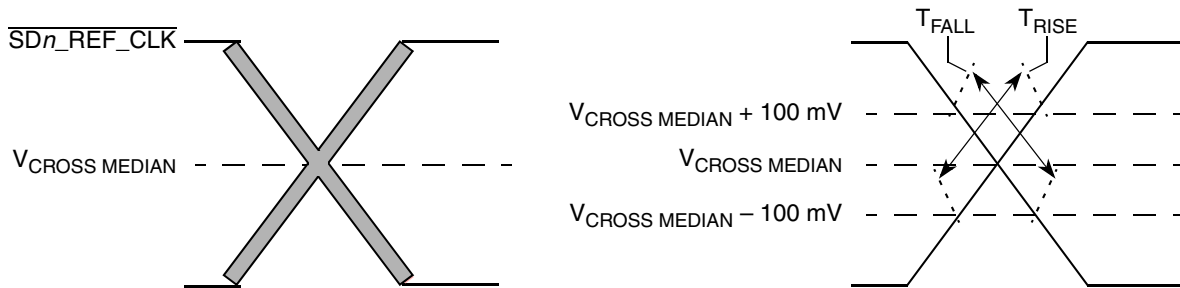

Figure 38. Single-Ended Measurement Points for Rise and Fall Time Matching
6. Matching applies to rising edge for SD_REF_CLK n and falling edge rate for $\overline{\text{SD_REF_CLK}}_n$. It is measured using a 200 mV window centered on the median cross point where SD_REF_CLK n rising meets $\overline{\text{SD_REF_CLK}}_n$ falling. The median cross point is used to calculate the voltage thresholds that the oscilloscope uses for the edge rate calculations. The rise edge rate of SD_REF_CLK n must be compared to the fall edge rate of $\overline{\text{SD_REF_CLK}}_n$, the maximum allowed difference should not exceed 20% of the slowest edge rate. See Figure 38.